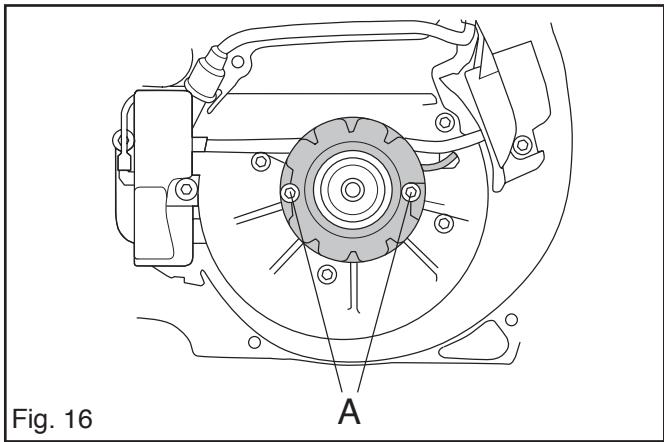

Fig. 16
8. Dismantle the screws (A) on the generator. See fig. 16.